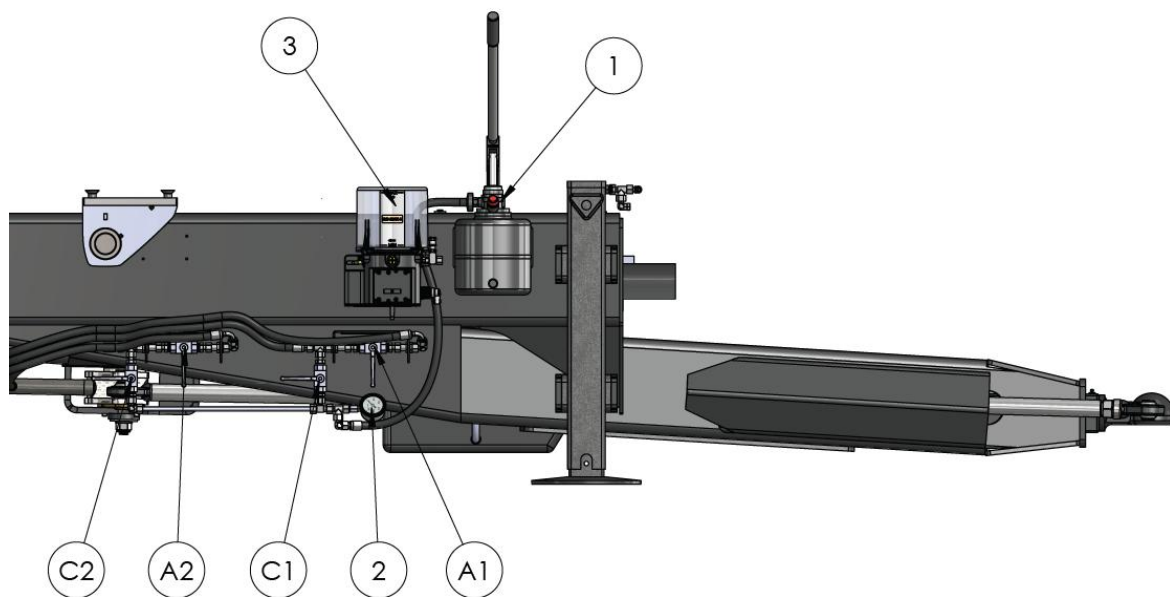

Figure 13-2 Position of ball valves on the vehicle
The Figure 13-2 ball valves (A1, A2, C1 and C2) are shown in their respective positions on the vehicle. These will always be mounted in the direct vicinity of the hand pump (1). The mounting position on the vehicle can be either on the left or right, near the front. The pressure gauge (2) can also be seen, which can be used to read the hydraulic pressure in the steering system. Optionally, the machine can also be equipped with an automatic lubrication system (3), see chapter 6 for more information about the automatic lubrication system.